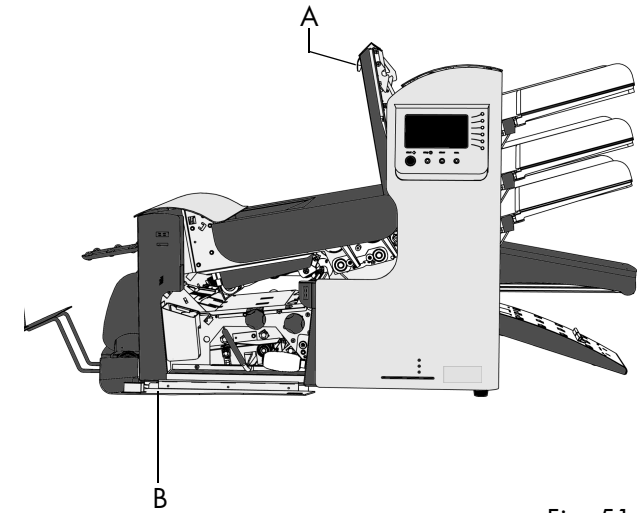
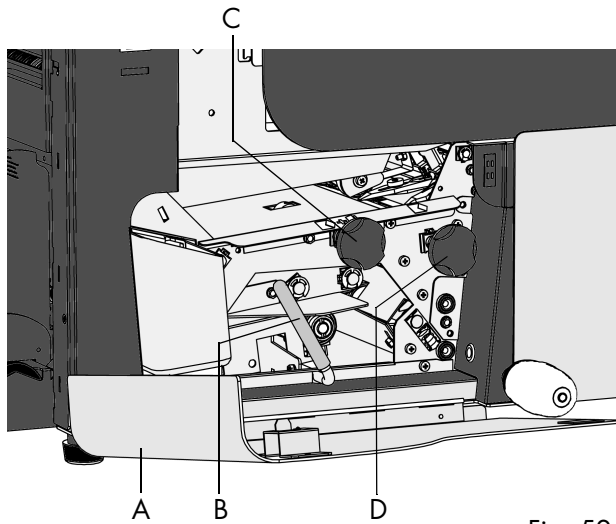

Fig. 51
Fig. 52
- pull the hand grip A up fig. 51 and pull the upper unit into vertical position.
- open the side cover B (fig. 51).
- open the side cover A (fig. 52).
- Lower and hold the handle B (fig. 52) to the left and remove the envelope(s) from the lower envelope track.
If needed, envelopes and documents can be transported manually by turning knob C clockwise (fig. 52). To transport envelopes manually to the insert table or to the lower envelope track, turn knob D clockwise. Pull the hand grip A up (fig. 51) and pull the upper unit into vertical position. The envelopes and documents can be removed.